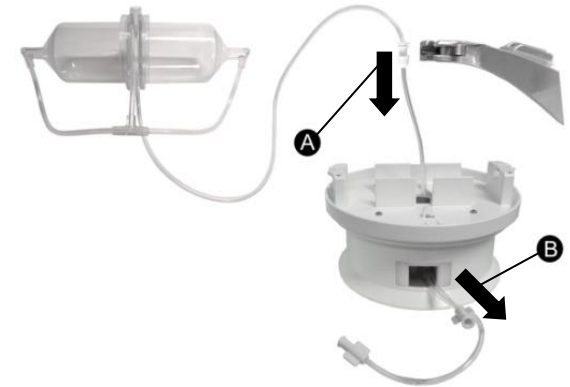

Figure 2. Thread the separation chamber tubing through the center of the chamber caddy.
5. Holding the platelet separation chamber with the vent facing upward, thread the attached tubing through the center of the chamber caddy (see Figure 2, A and B).